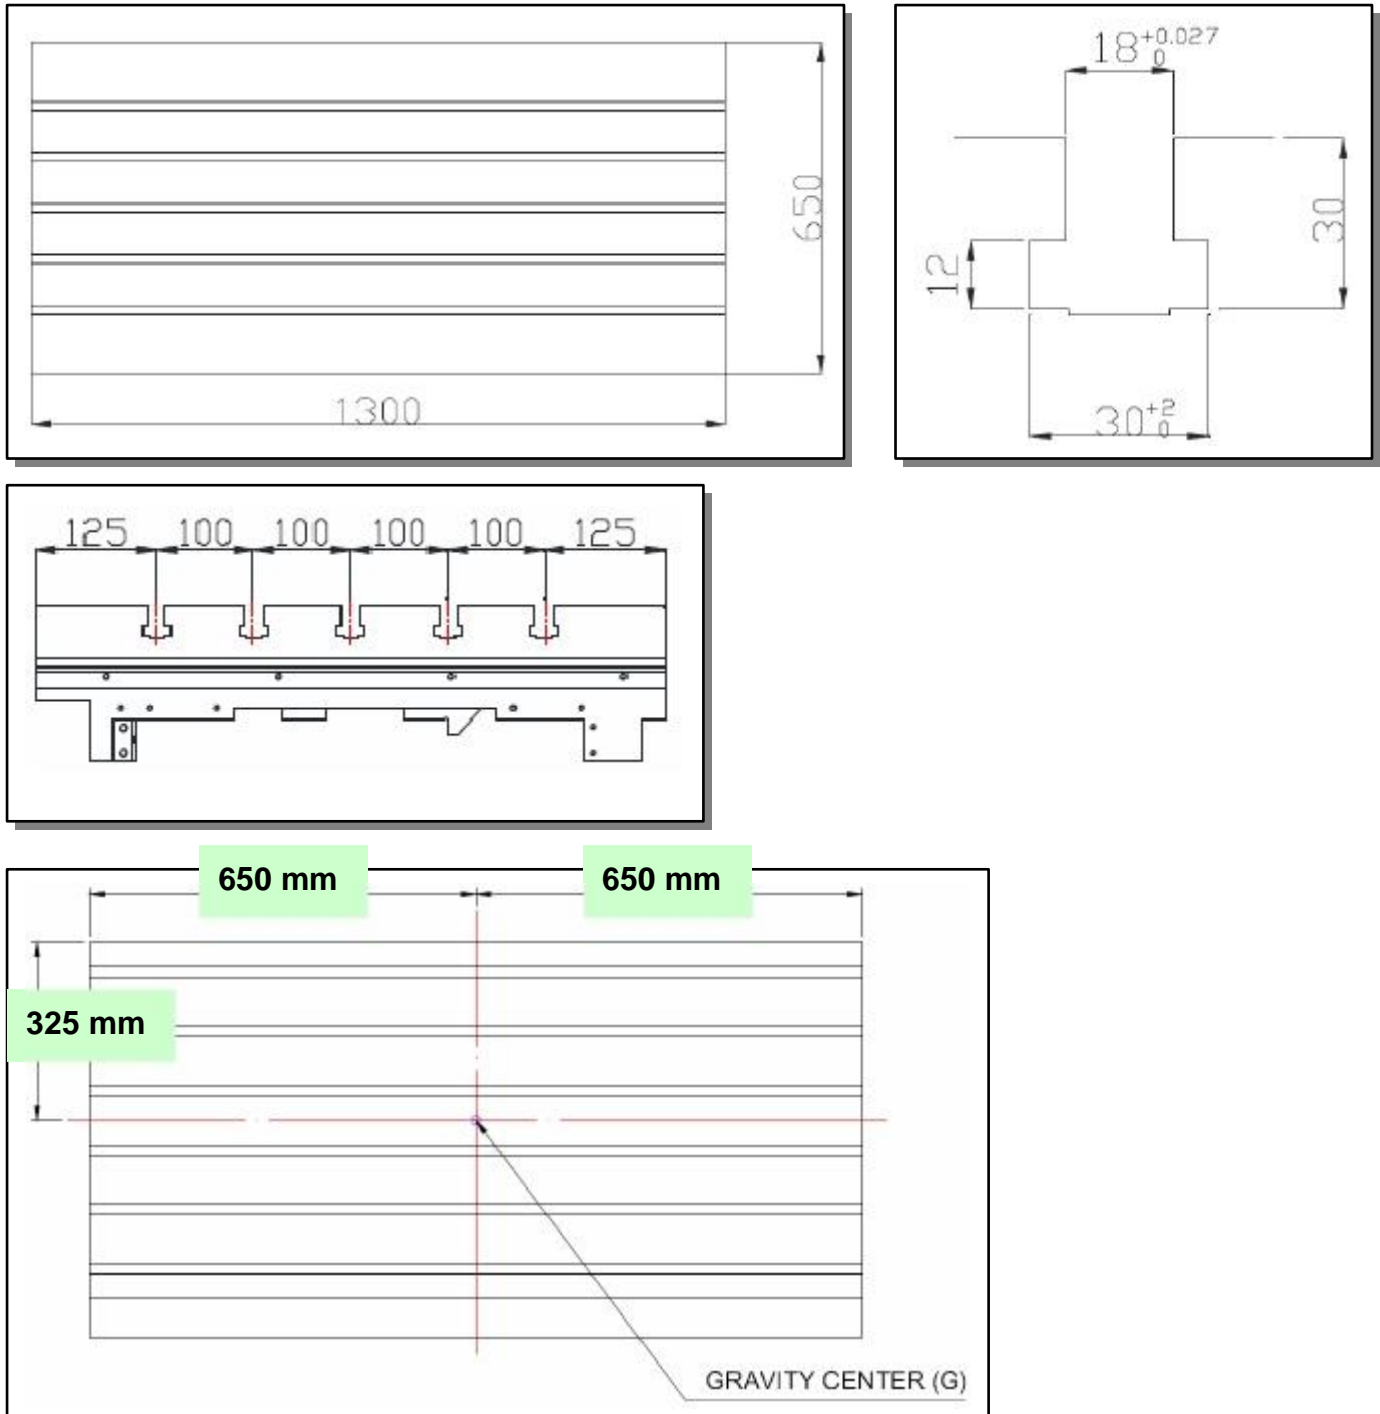

Figure 8.2 WORKPIECE RESTRICTIONS
- 2) Table size : Shown in Figure 8.2